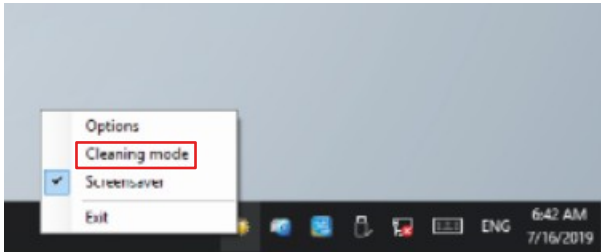

Fig. 13: Select "Cleaning Mode"
3. Select the "Cleaning Mode" (see Fig. 13).